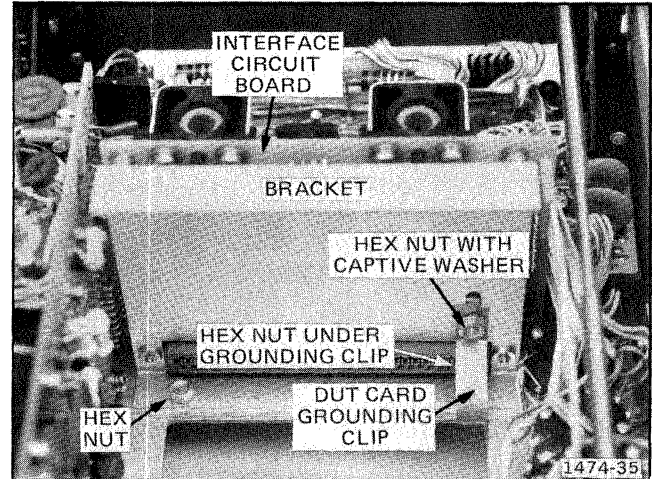

Fig. 4-9. Location of the DUT card grounding clip.
i. Remove the DUT card-grounding clip (see Fig. 4-9).